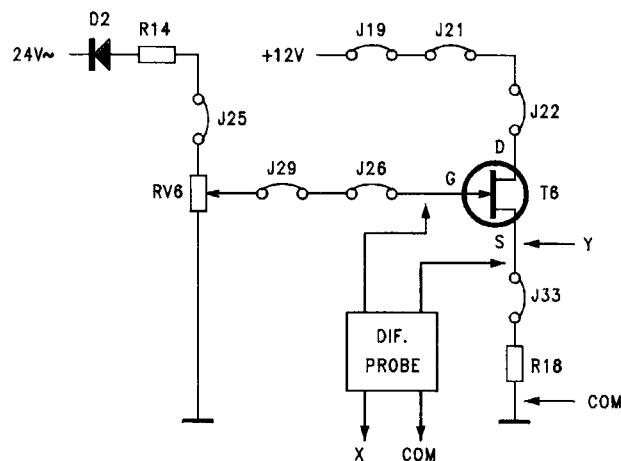

fig.B14.20
- produce the circuit of fig.B14.20 by connecting jumpers J19, J21, J22, J33, J25, J29, J26